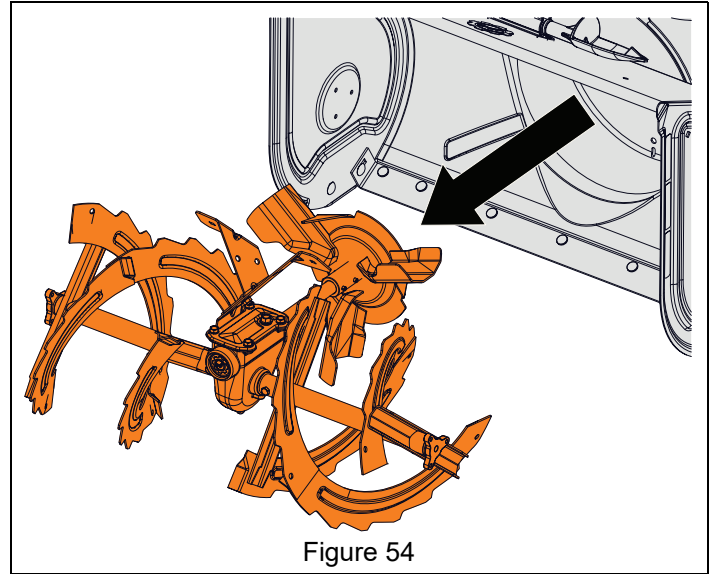

Figure 54
9. Remove auger assembly from housing. See Figure 54.
8. Remove auger assembly from housing. See Figure 54.